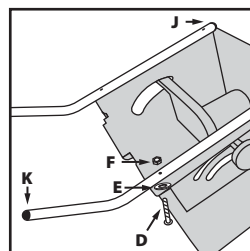

Fig. 3
- Attach the two components labelled **1** using fixings **D, E & F** from **BAG 2**. (Fig 3)